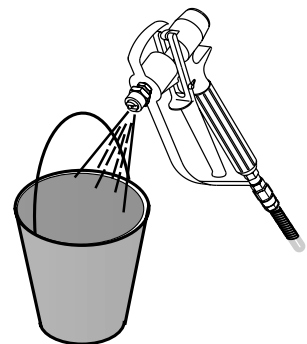

Fig.29
10) The product that is discharged during the unloading or the residues during washing **MUST NEVER** be dispersed on the ground but collected in suitable containers and disposed of in accordance with local regulations (fig. 29).